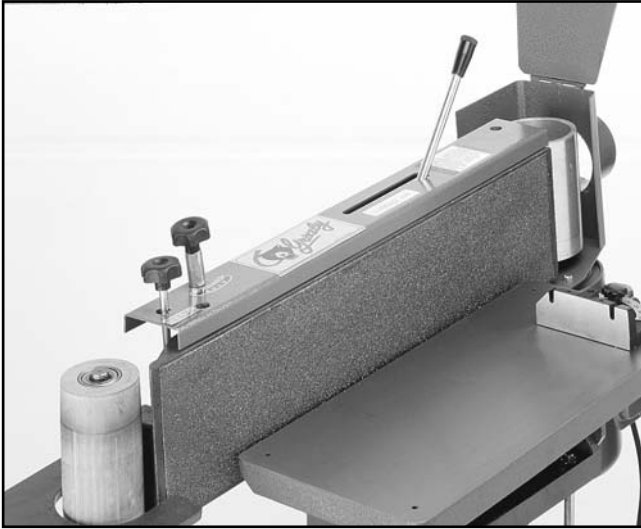

Figure 16. Sander ready for belt installation.
1. Loosen the belt tracking lock knob on the top left of the machine. Open the lid of the dust port and move the quick release lever to its locked open position. **Figure 16.**